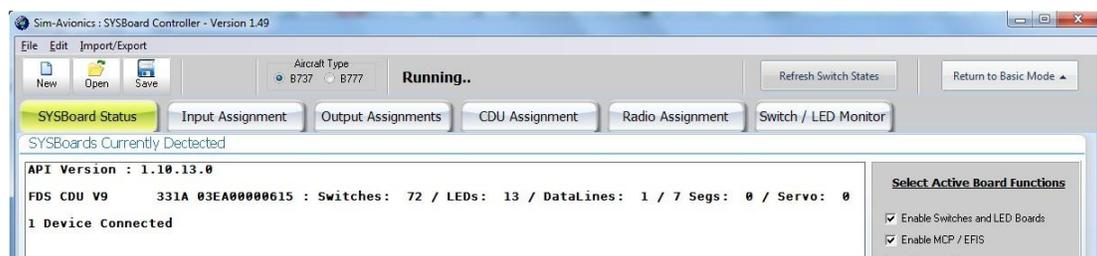

Fig.8
Assign the CDU(s) by opening “Enable Program Mode” on right side of SYS Controller (Fig.8)
- 5) List of SYSBoards or Devices Connected is shown. Select CDU Assignment Tab. (Fig.8)